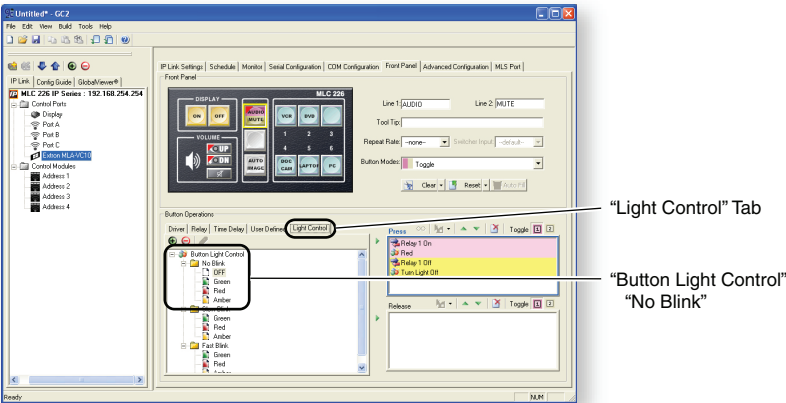

Figure 3-7 — Configuring the mute button (step 7)
- 7. In the Buttons Operation section, select the **Light Control** tab and, in the "No Blink" section, select the Red light. Add it to the "Press" pane by clicking on the green triangle (see figure 3-7).